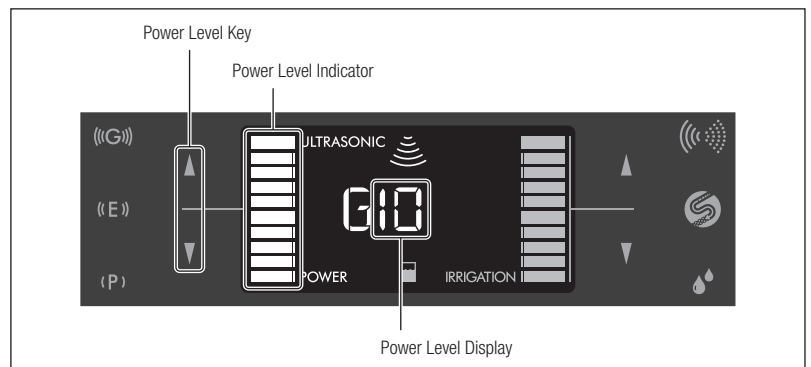

Fig. 20
- 2) Touch the Power Level Key (▲/▼) to set the Power Level. The Power Level Display and the Power Level Indicator increase or decrease in accordance with the selected level (Fig. 20).